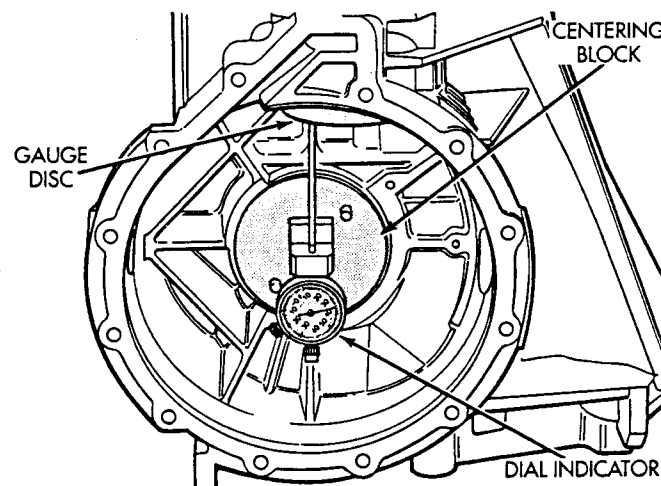

Fig. 10 Mounting Dial Indicator to Centering Block
(10) Compress the dial indicator slightly and insert dial indicator pin into centering block (Fig. 10).